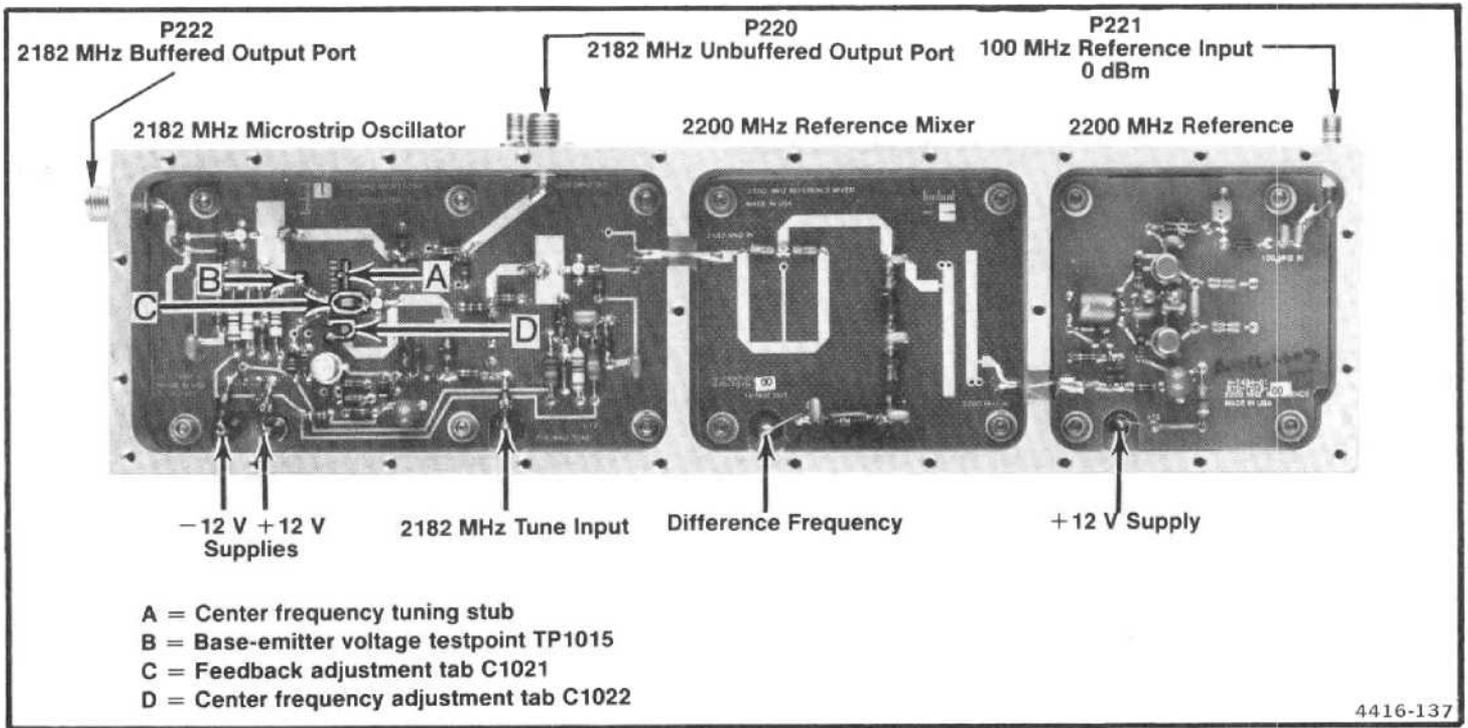

Figure 6-20. Adjustments and test point locations within the 829 MHz Converter oscillator section.
d. Install a 50 Ω terminator on the 2182 MHz buffered output port, P222, (see Figure 6-20). Set the variable power supply to 0 V. Connect the plus (+) terminal to the 2nd LO housing and the negative (–) terminal to the exposed end of C2203 and L2031, through a 1 kΩ resistor.
g. Bend the feedback and frequency adjusting tabs, C1021 and C1022 (see Figure 6-20), with your finger so they are approximately 30° above the board surface.
2. Adjust and Check Oscillator Frequency (Refer to Figure 6-20)
c. Check V_{be} at TP1015 (B in Figure 6-20). If V_{be} is greater than +0.5 V, push the feedback adjustment tab down slightly and if less than -0.3 V, lift the tab. If V_{be} is greater than +0.8 V, replace the microstrip oscillator board. If V_{be} is more negative than -1 V, check the bias circuitry. Adjust the tab so V_{be} is +0.15 V, ± 0.05 V at TP1015. Do not touch the feedback tab while measuring voltages.
d. Check for an oscillator frequency of 2182 MHz, ± 5 MHz. Bend the frequency adjustment tab C1022 (D in Figure 6-20) to bring the oscillator within tolerance. (Bend the tab up to increase frequency and down to lower frequency.) If unable to bring the oscillator frequency within range, replace the 2182 MHz microstrip oscillator board.
b. Confirm that the output signal frequency is 18 MHz ± 1 MHz. Adjust the tab C1022 (Figure 6-20) for the 2182 MHz Microstrip Oscillator, to bring the 18 MHz within the 1 MHz tolerance.